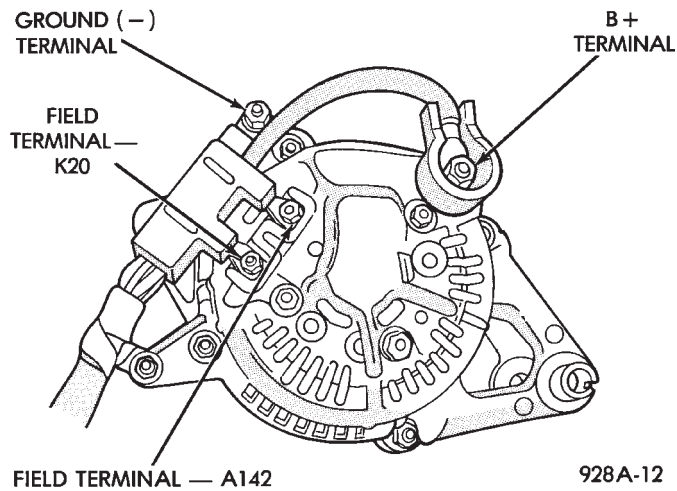
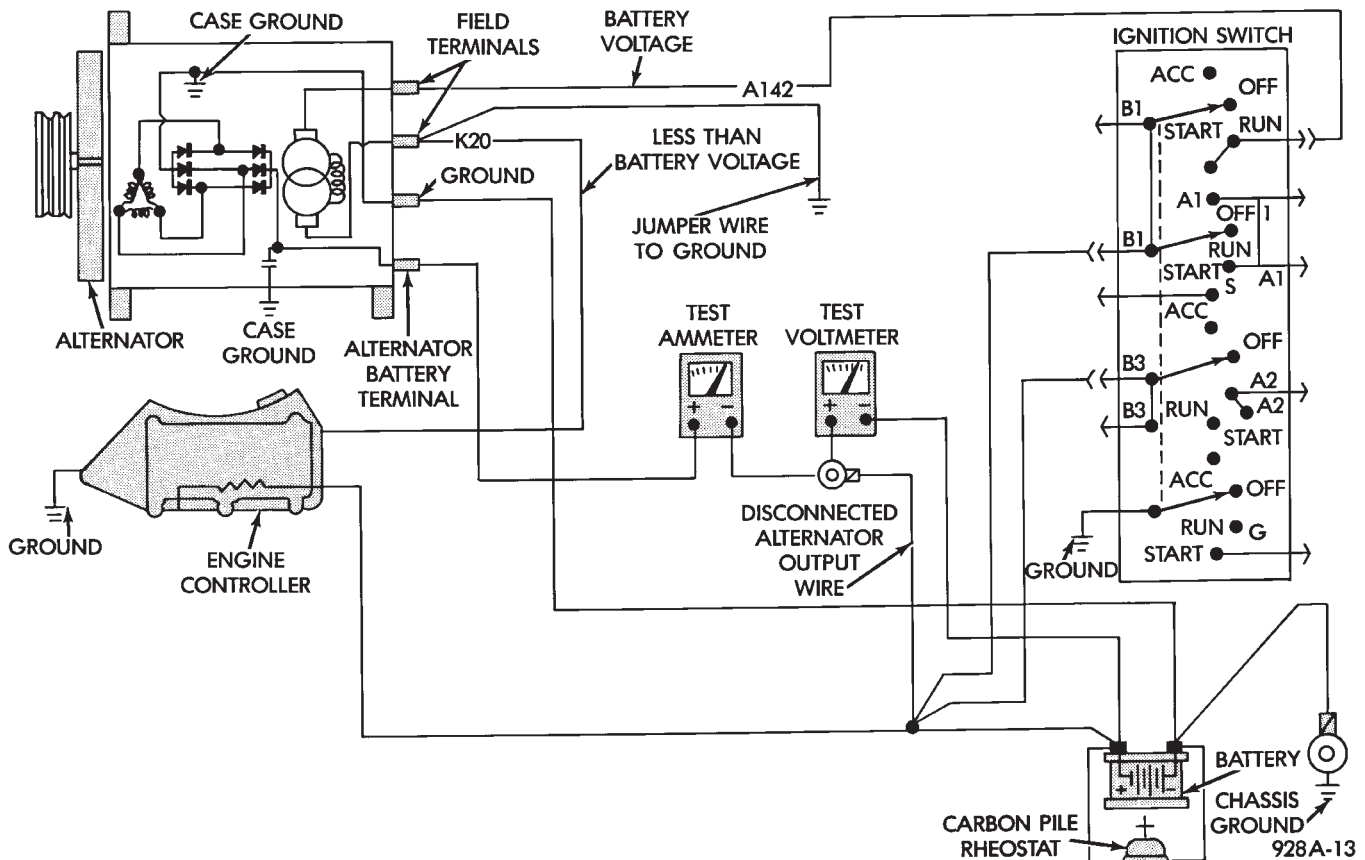
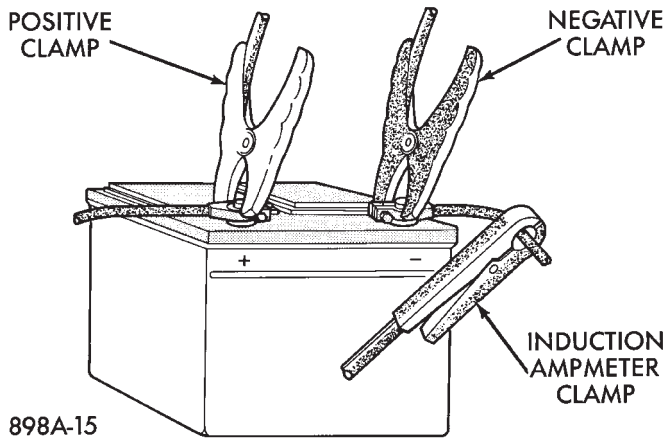

Fig. 1 Alternator Wiring Connections
Fig. 2 Alternator Output Wire Resistance Test
Fig. 5 Volt/Amp Tester Connections
- (1) Turn the ignition switch OFF.
- (2) Disconnect battery negative cable.
(3) Disconnect the alternator B+ output wire from the alternator output battery terminal (Fig. 1).
(4) Connect a 0-150 ampere scale (DC) ammeter in series between B+ terminal and output wire (Fig. 1 and 2). Connect positive lead to B+ terminal, and negative lead to output wire.
(5) Using 0-18 volt scale voltmeter, connect the positive lead to the disconnected (B+) output wire. Connect the negative lead to positive battery cable at positive post.
(6) Remove fresh air hose between Engine Controller and air cleaner if necessary.
CAUTION: Do not connect the A142 circuit terminal (Fig. 1) to ground the Fusible link will burn.
- (1) Disconnect battery negative cable.
- (2) Disconnect output wire at the B+ terminal (Figs. 1 and 4).
- (3) Connect a 0-150 ampere scale (DC) ammeter in series between the B+ terminal and output wire. Connect Positive lead to B+ terminal and negative lead to output wire.
- (4) Using 0-18 voltmeter, connect the positive lead to B+ terminal (Figs. 2 and 4). Connect negative lead to a good ground.
- (5) Connect an engine tachometer and connect battery negative cable.
- (6) Connect a volt/amp tester equipped with a variable carbon pile rheostat between battery terminals (Fig. 5). Be sure carbon pile is in OFF position before connecting leads.
- (8) Remove fresh air hose between Engine Controller and air cleaner if necessary.
(9) Full field the alternator. Connect a jumper wire between a good ground and to the K20 circuit terminal at the back of the alternator (Figs. 1 and 4).